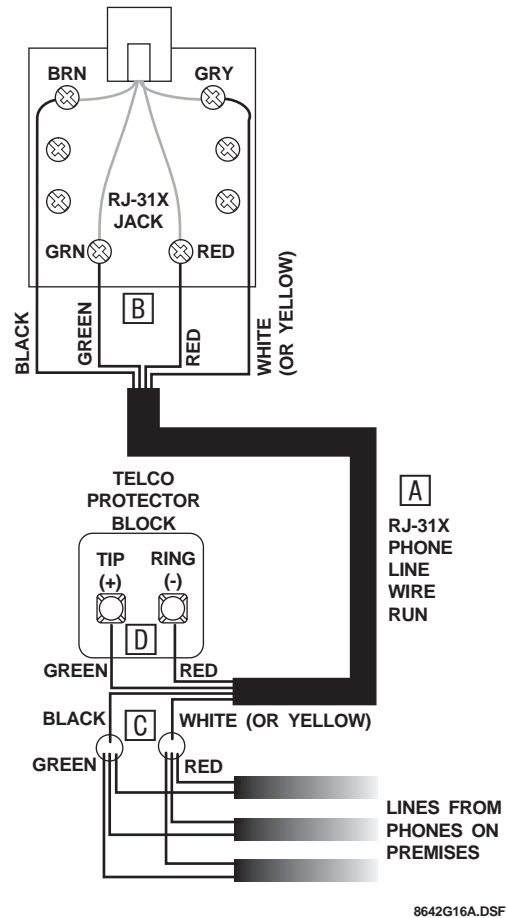

Figure 17. Installing an RJ-31X Phone Jack
1. Run a 4-conductor cable from the TELCO protector block to the jack location (see **A** in Figure 17).
2. Connect one end of the cable to the jack (see **B** in Figure 17).
3. At the TELCO protector block, remove the premises phone lines (lines from phone jacks on premises) from the block and splice them to the black and white (or yellow) wires of the 4-conductor cable (see **C** in Figure 17).
4. Connect the green and red wires from the 4-conductor cable to the TIP (+) and RING (-) posts on the block (see **D** in Figure 17).